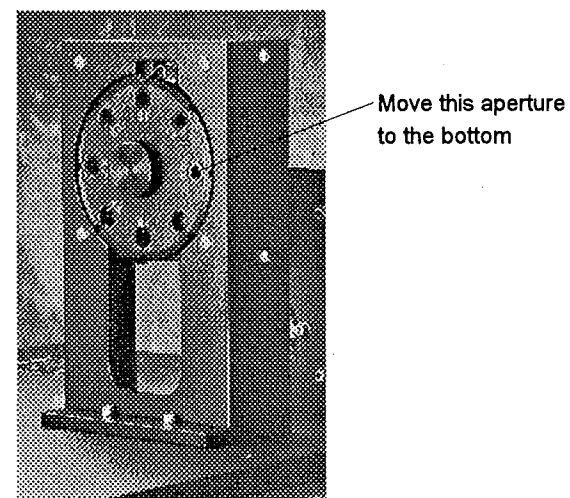

Figure 8. Aperture wheel #2 (on top plate)
- c) Set aperture wheel #2 (Figure 8) to 0.8 mm.